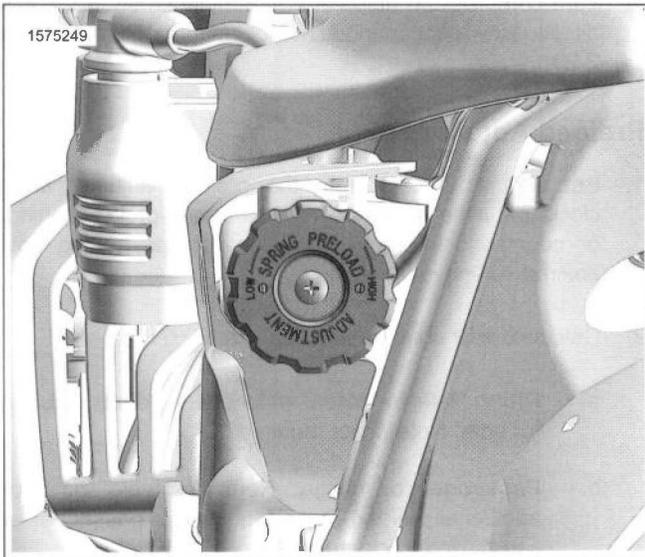

Figure 2-35. Preload Adjuster
1. See Figure 2-35. Rotate the preload adjuster knob clockwise in the HIGH direction to increase preload setting, or counterclockwise to decrease preload setting until desired setting is reached.